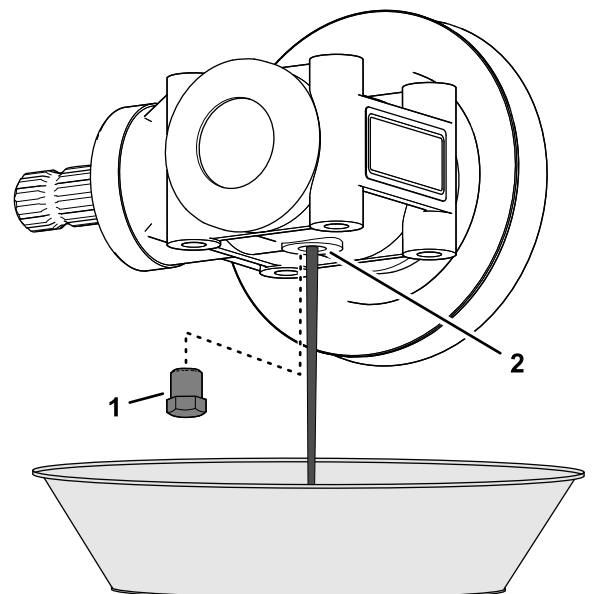

Figure 119
1. Remove the case plug from the case-plug hole of the mower-deck gearbox (Figure 119).
2. Position the gearbox over drain pan and drain the oil from the gearbox completely (Figure 119).